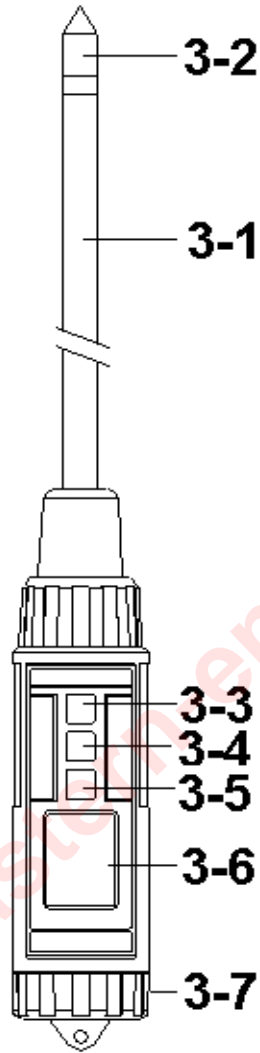

Fig. 1
- 1) Turn on the meter by pressing the " Power Button " (3-3, Fig. 1) momentarily.
** Press the " Power Button " (3-3, Fig. 1) momentarily again will turn off the meter.*
- 2) Insert the " Moisture sensing head " (3-2, Fig. 1) into the measured soil.
- * During the measurement, press the " Hold Button " (3-4, Fig. 1) momentarily to hold the measured value. The LCD will show a " HOLD " symbol.
- 1) The data record function records the maximum and minimum readings. Press the " REC Button " (3-5, Fig. 1) momentarily to start the Data Record function, shows " REC " on the display.
- a) Press the " REC Button " (3-5, Fig. 1) momentarily, the " REC MAX " symbol along with the maximum value will appear on the display.
- b) Press the " REC Button " (3-5, Fig. 1) momentarily again, the " REC MIN " symbol along with the minimum value will appear on the display.
- * *When display shows " REC MAX " or " REC MIN ", press the " Hold Button " (3-4, Fig. 1) momentarily will delete the max. (min.) value, the display will show the " REC. " only and execute the memory function continuously.*
- * To change the batteries, open (rotate clockwise direction) the " Battery Cover " (3-7, Fig. 1).
- * Make sure the " Battery cover " (3-7, Fig 1) is secured after changing the batteries.